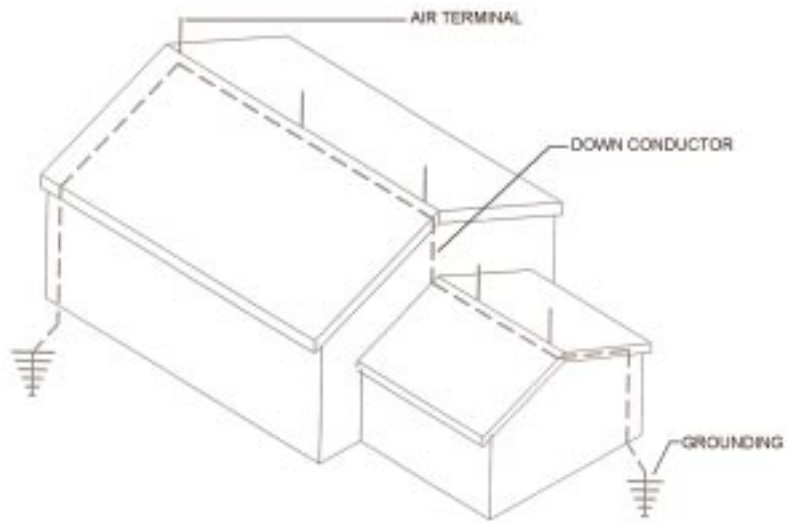
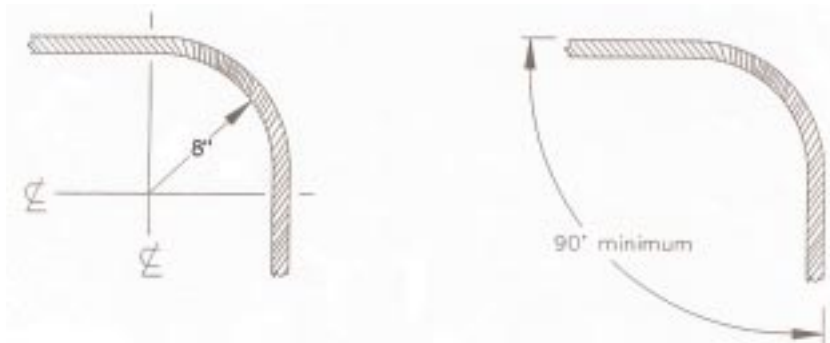
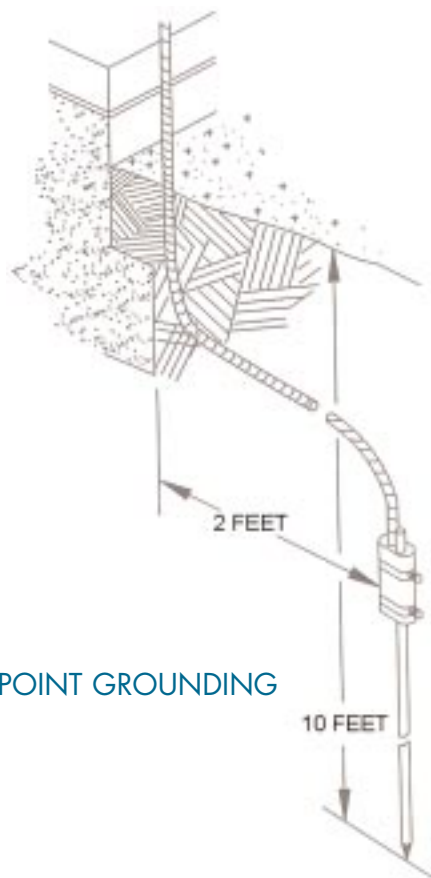

FIGURE 6 LIGHTNING PROTECTION SYSTEM
FIGURE 7 MAXIMUM BENDS IN CABLE
FIGURE 8 SINGLE-POINT GROUNDING
Properly designed protection systems (Fig. 6) have been documented by Underwriters’ Laboratories (UL) to be over 99% effective in preventing direct damage by lightning. A system consists of five components: (1) collection devices to direct lightning away from the structure and into the ground (these devices include lightning rods or “air terminals,” Faraday’s cages, shielding wires, etc., each made for a specific purpose); (2) cables to interconnect collection devices and download conductor cables to route lightning between collection devices and down to the grounding (any bends in the cable should not be too sharp [Fig. 7] to prevent “flashover” of lightning to nearby objects); (3) interconnection to metal parts on the roof or within the building; and (4) grounding rods to dissipate lightning into the earth once it has traveled down the building. Single point (Fig. 8) or multiple point grounding systems can be used, depending on ground resistance, water table and soil characteristics. Avoid placing multiple point grounding rods so close that they allow saturation of the ground—UL requires minimum 10’ separation between multiple grounds. Preferably, each rod should have counterpoise (also called fork-type or crow’s foot) radial branches to reduce impedance. The system should share common grounding with electric and telephone ground, and metallic water and gas pipe according to code; and (5) secondary lightning surge arresters on the main electric panel, telephone line entrance, and radio and TV antenna lead-in.